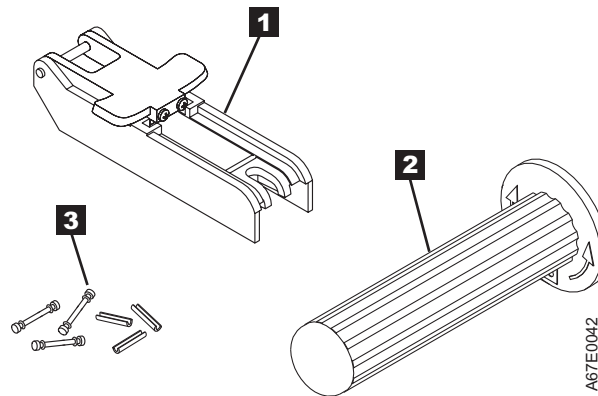

Figure 47. Leader Pin Reattachment Kit
- **Leader pin attach tool** (see **1** in Figure 47). A plastic brace that holds the cartridge door open.
- **Cartridge manual rewind tool** (see **2** in Figure 47). A device that fits into the cartridge's hub and lets you wind the tape into and out of the cartridge.
- **Pin supplies** (see **3** in Figure 47). Leader pins and C-clips.